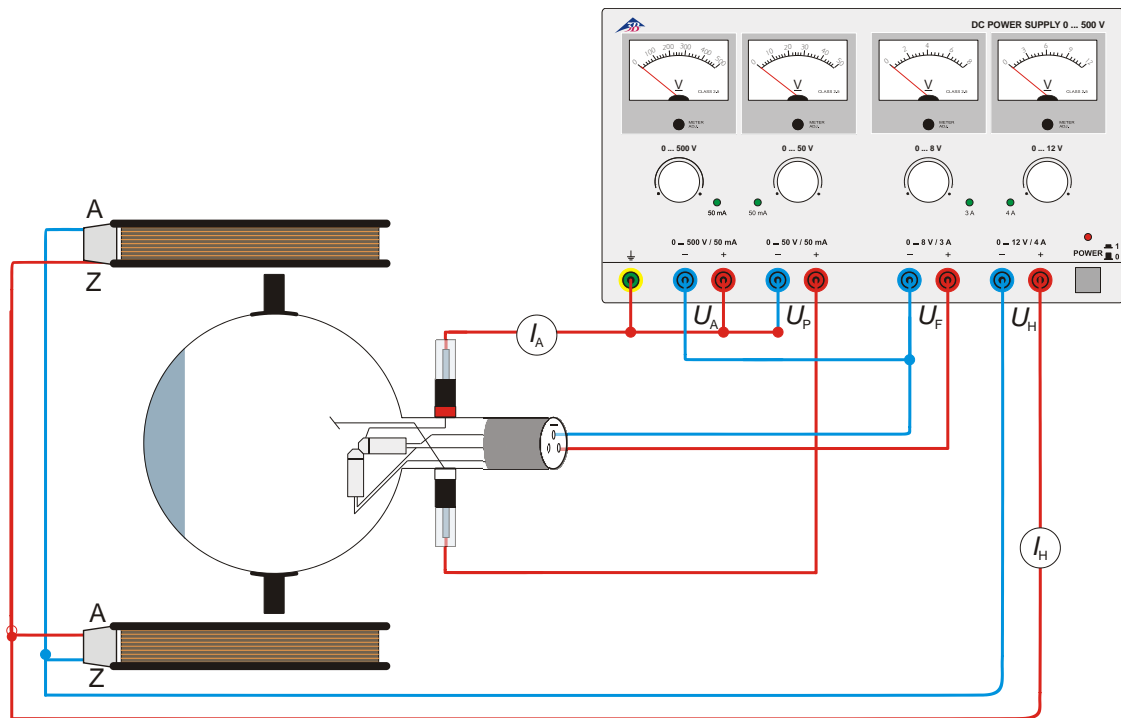

Fig. 5 Determining  $e/m$  using the perpendicular electron gun
- Connect up the tube as in Fig. 5.